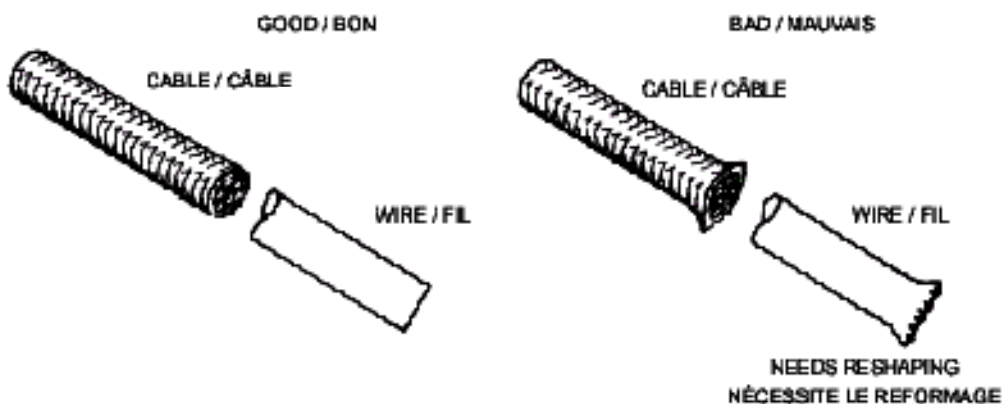

Figure 14. After Cutting
- f. Assure that insulation is cut clean with no frayed edges (see Figure 14). Trim, if necessary.